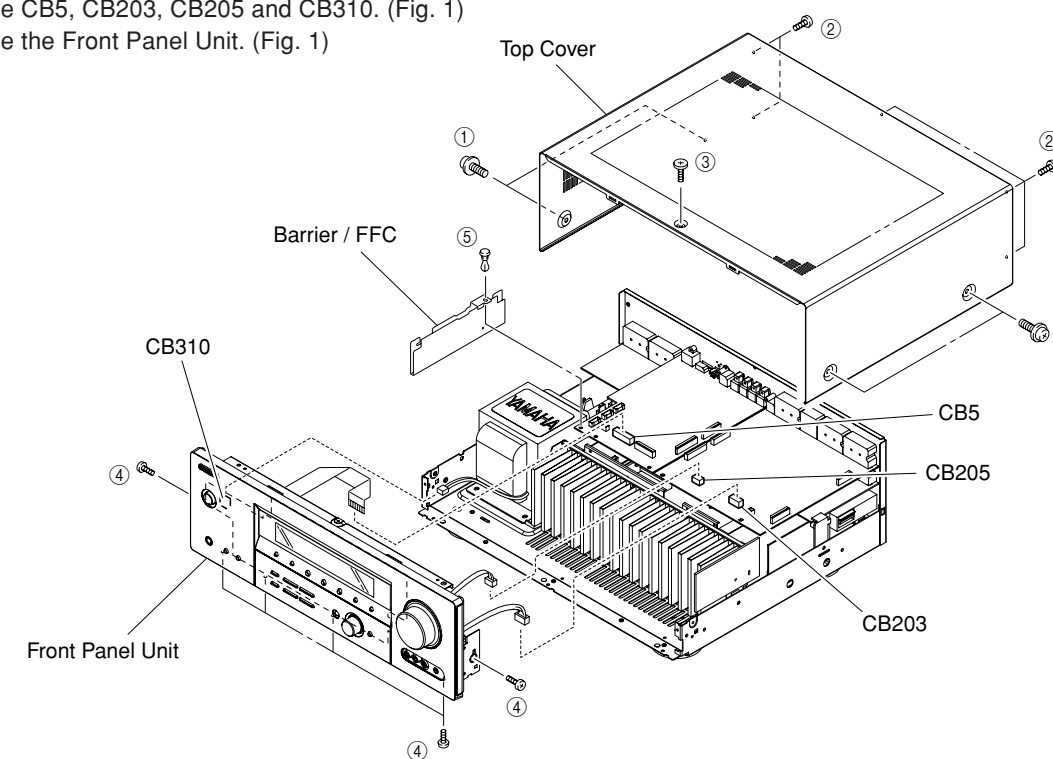
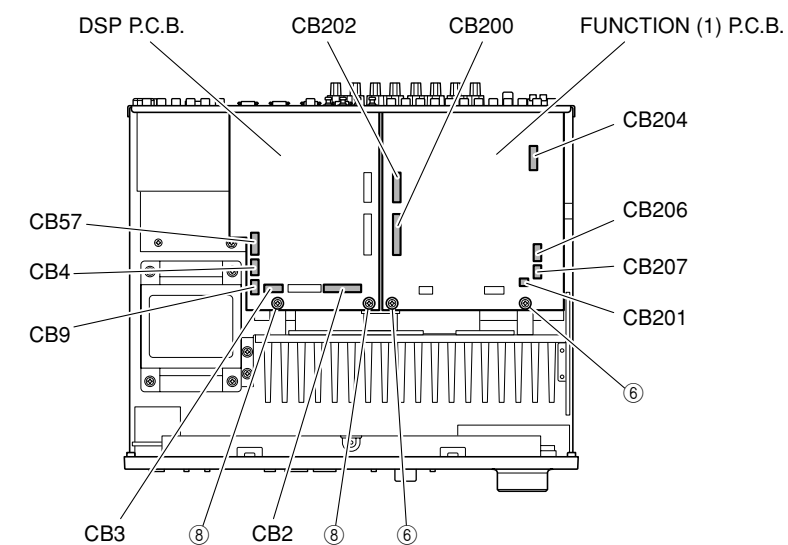

Fig. 1
Fig. 2
- Remove 4 screws (①), 5 screws (②) and 1 screw (③). (Fig. 1)
- Slide the Top Cover rearward to remove it. (Fig. 1)
- Remove 6 screws (④). (Fig. 1)
- Remove a push rivet (⑤). (Fig. 1)
- Remove the Barrier/FFC. (Fig. 1)
- Remove CB5, CB203, CB205 and CB310. (Fig. 1)
- Remove the Front Panel Unit. (Fig. 1)
**3. Removal of FUNCTION (1) P.C.B.**
- Remove 2 screws (⑥). (Fig. 2)
- Remove CB200-202, CB204, CB206 and CB207. (Fig. 2)
- Remove the FUNCTION (1) P.C.B.. (Fig. 2)
- a. Remove 2 screws (8). (Fig. 2)
- c. Remove CB2-4, CB9 and CB57. (Fig. 2)
- d. Remove the DSP P.C.B.. (Fig. 2)